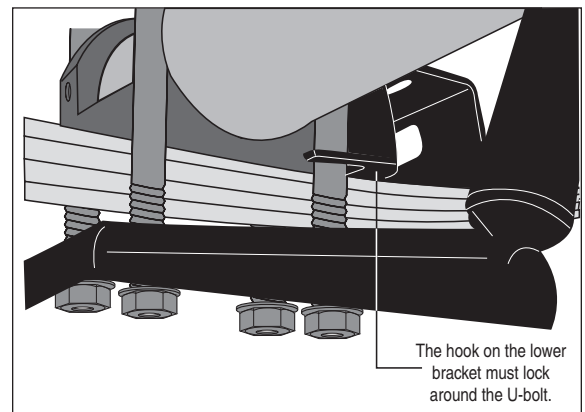

Figure 4
2. Set upper bracket (B) over the fitting and thread post (Figure 4). Position the elbow towards the front or rear of the vehicle depending on which direction will allow easier access for the air line.
1. With the vehicle at normal ride height, set the air spring assembly on the leaf spring behind the axle. The hook end of the lower bracket (C1, C2) must lock around the U-bolt to avoid moving along the leaf spring (Figure 4).